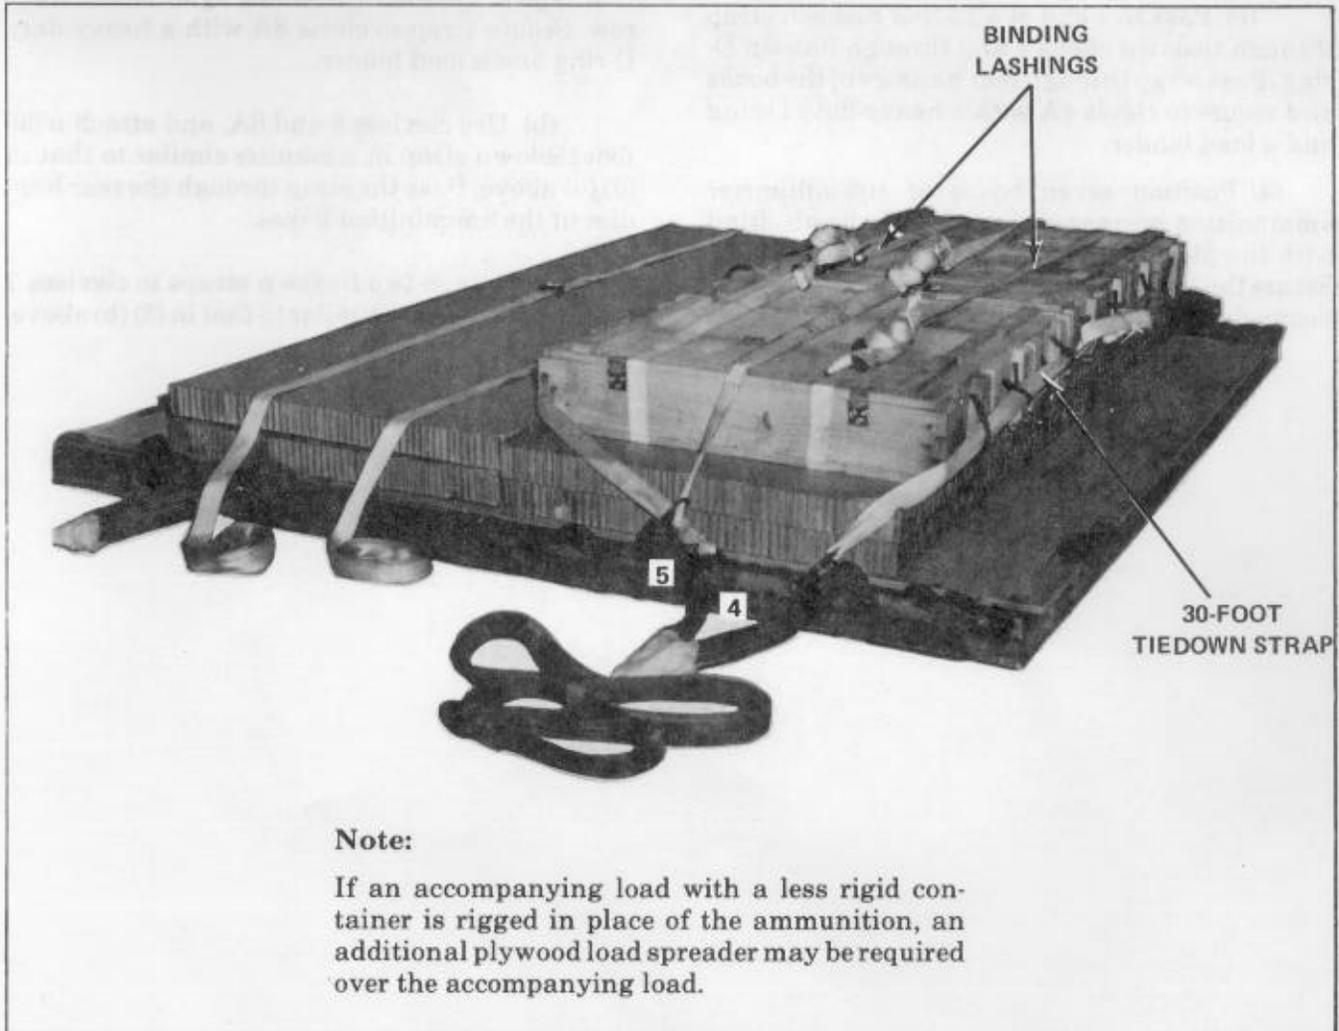

Figure 2-5. Front row of boxes secured.
(3) Use five 15-foot tiedown straps, five heavy-duty D-rings, three load binders, and secure the boxes to the platform (fig 2-5) as follows: